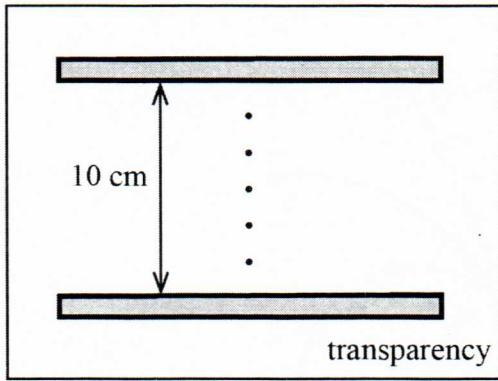

Figure 2.5 The parallel plates with the transparency in the correct landscape orientation.
1. The first charge distribution examined will be **parallel plates**. Stack the provided laminated grid and a clean transparency on top in landscape. Place the bars so that they are 10 cm apart and parallel. Using a permanent marker, trace the positions of the bars. Label one + and the other -. At approximately the middle of the bars, measure out and mark 5 equidistant points as shown in figure 2.5. If you make a mistake, you can use a small amount of isopropyl alcohol or a dry erase marker to erase the permanent marker.